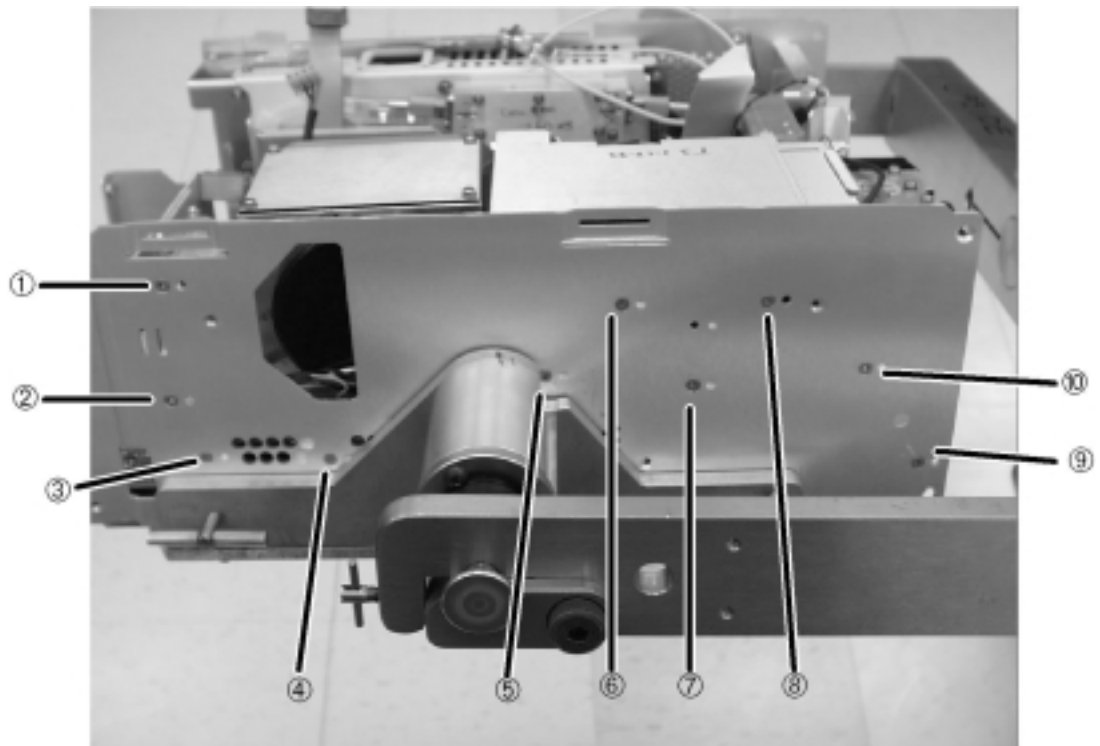

Figure 3-78. Removing the screws fastening the optical assembly to the side of the instrument
- 9 Using the T-10 TORX driver, remove ten screws fastening the optical assembly to the side of the instrument chassis. See ① through ⑩ in Figure 3-78 below.